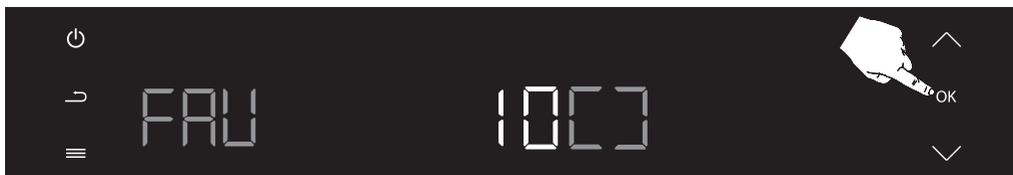

Figure 58
After selecting the favourite number, a long press on the confirmation button (OK) adds the cooking operation to the favourites. (see figure 58)